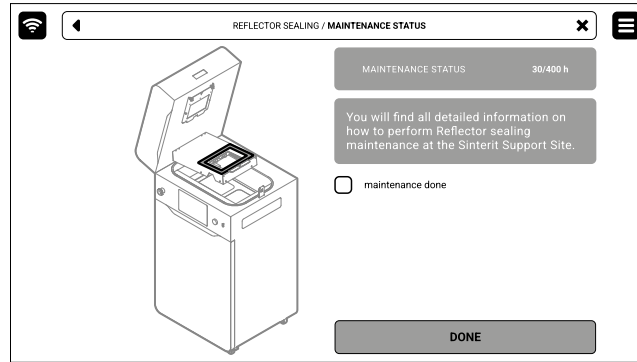

Fig. 13.99 The maintenance screen for the reflector sealing replacement.
2. Mark **MAINTENANCE DONE** to complete the cleaning procedure, and then the **DONE** button. The timer will reset to zero (fig. 13.99).